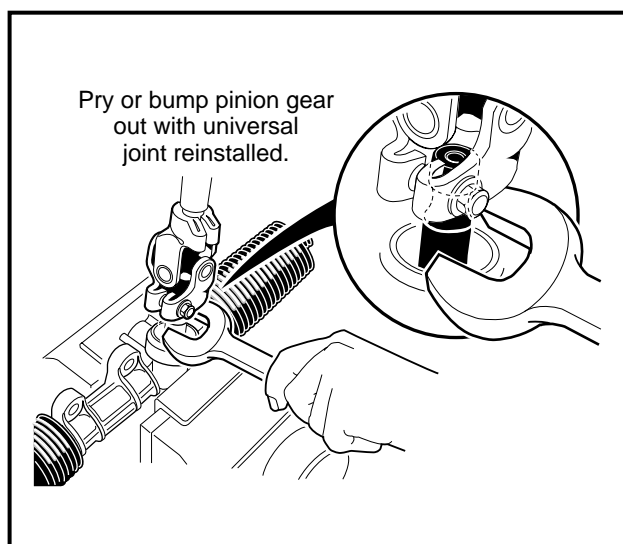

Figure 7-9 Remove Pinion from Housing
10. Install the universal joint onto the pinion and place a large open end wrench under the universal joint **(Figure 7-9, Page 7-9)**. Use the wrench as a lever to pull the pinion from the housing.